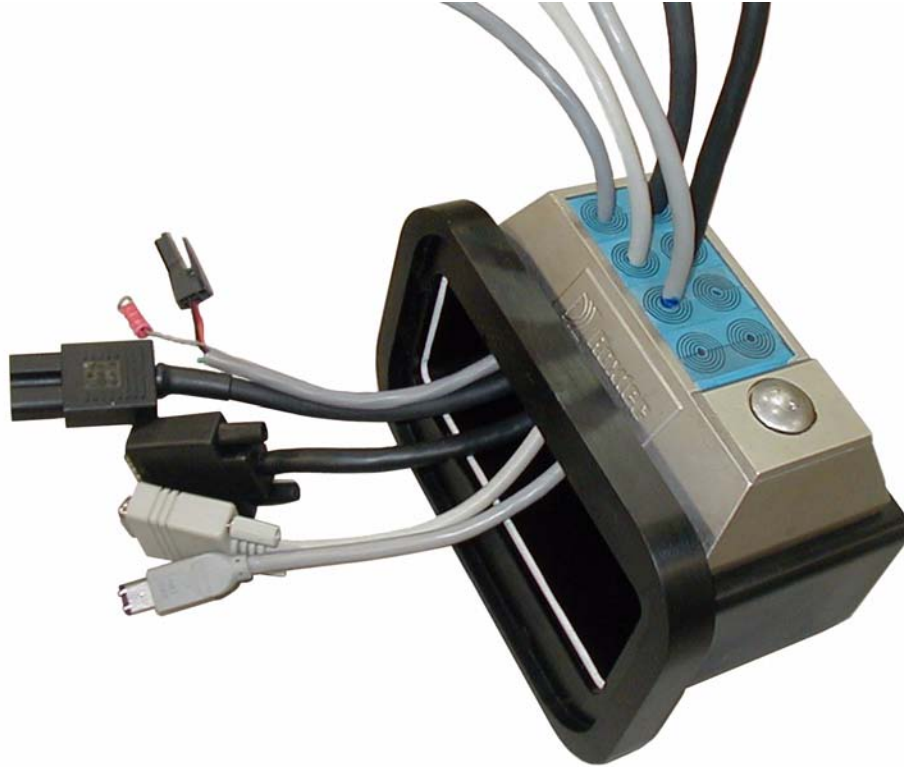

Figure 9-10. Cable Entry Assembly with Cables
This amount of slack is needed to install the seal assembly after the connections are made to the AIB. See Figure 9-10.
6. Install each AIB cable through its corresponding module, and insert the modules into the frame. See the following figure. Ensure that the terminated cable ends have 10 - 12 in. of slack. See Figure 9-10.